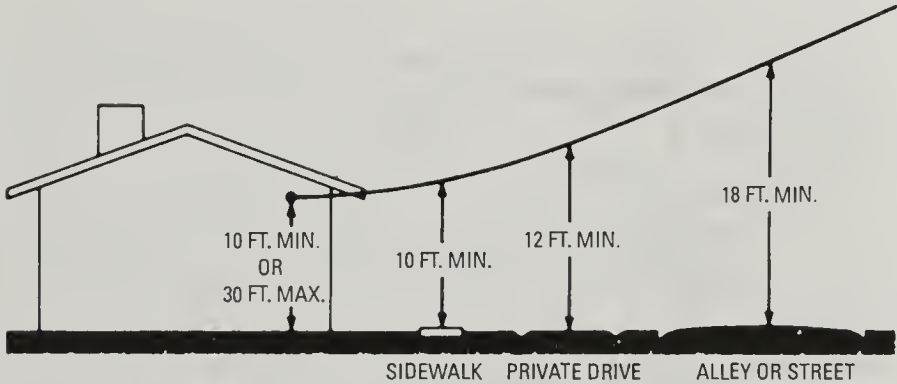
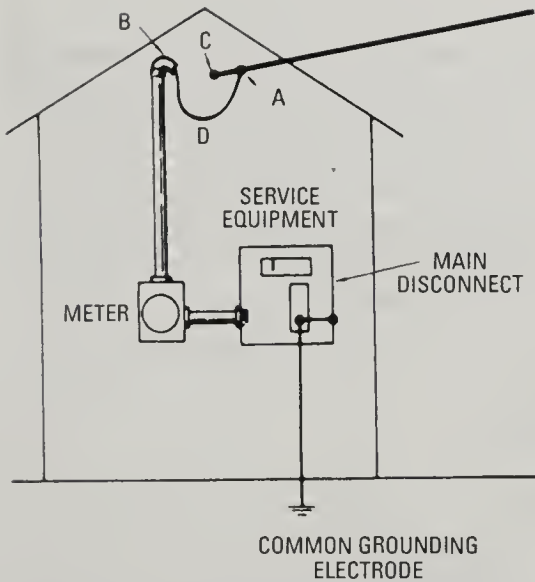

Figure 2-14 Minimum service-drop clearance.
Figure 2-19 A typical service installation.
Vertical clearance from the ground is covered in *Section 230-24(B)* of the *NEC*. The section will not be reproduced here but is illustrated by Figure 2-14.
Figure 2-19 shows service entrances other than a mast type. Where the proper height can be obtained without a mast, as shown in Figure 2-14, such an installation may be used. This might be service-entrance cable (*Article 338*), rigid conduit (*Article 344*), or electrical metallic tubing (*Article 358*), provided watertight fittings are used.
The service-entrance conductors extend from point A in Figure 2-19 to the line side of the main disconnecting means in the service
equipment. Notice that the service-entrance head (B) is higher than the point of attachment of the service drop. This is covered in *Section 230.54., Service Cable Equipped with Raintight Service Head or Gooseneck*. If it is not possible to install the service head higher than the point of attachment, there are other alternatives. However, the basis of all such practices is to keep water from running into the service raceway and equipment. Notice the drip loop (Figure 2-19, part D) for this purpose.